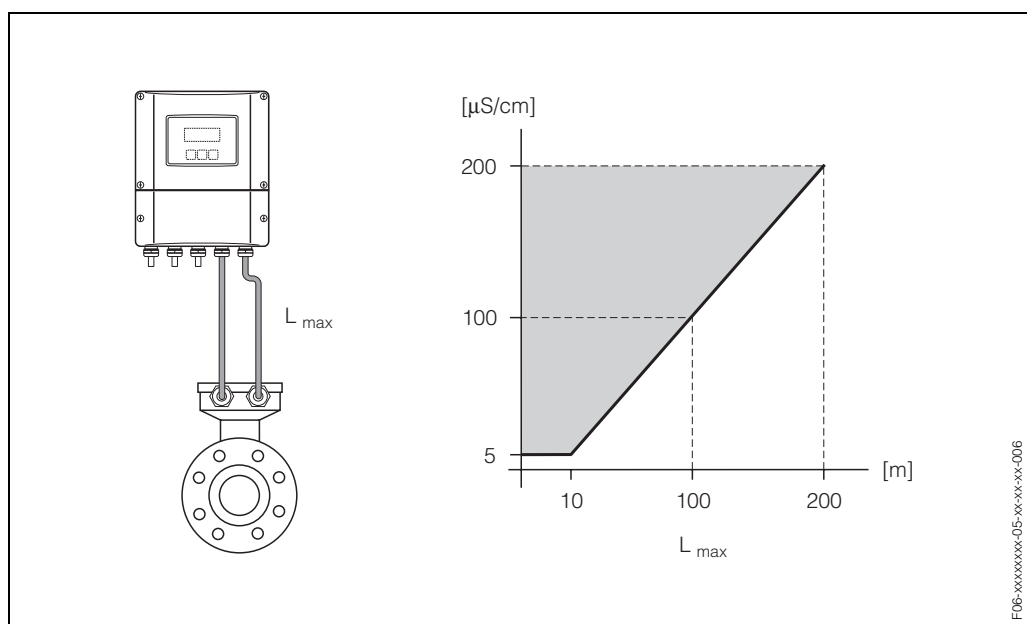

Fig. 15: Permissible cable length for the remote version
- The permissible cable length L_{max} depends on the fluid conductivity (Fig. 15).